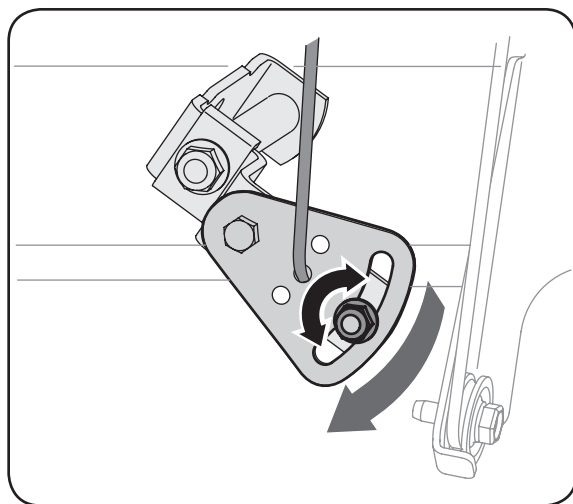

Figure 5-3
2. Loosen the hex nut on the shift cable index bracket. See Figure 5-3.